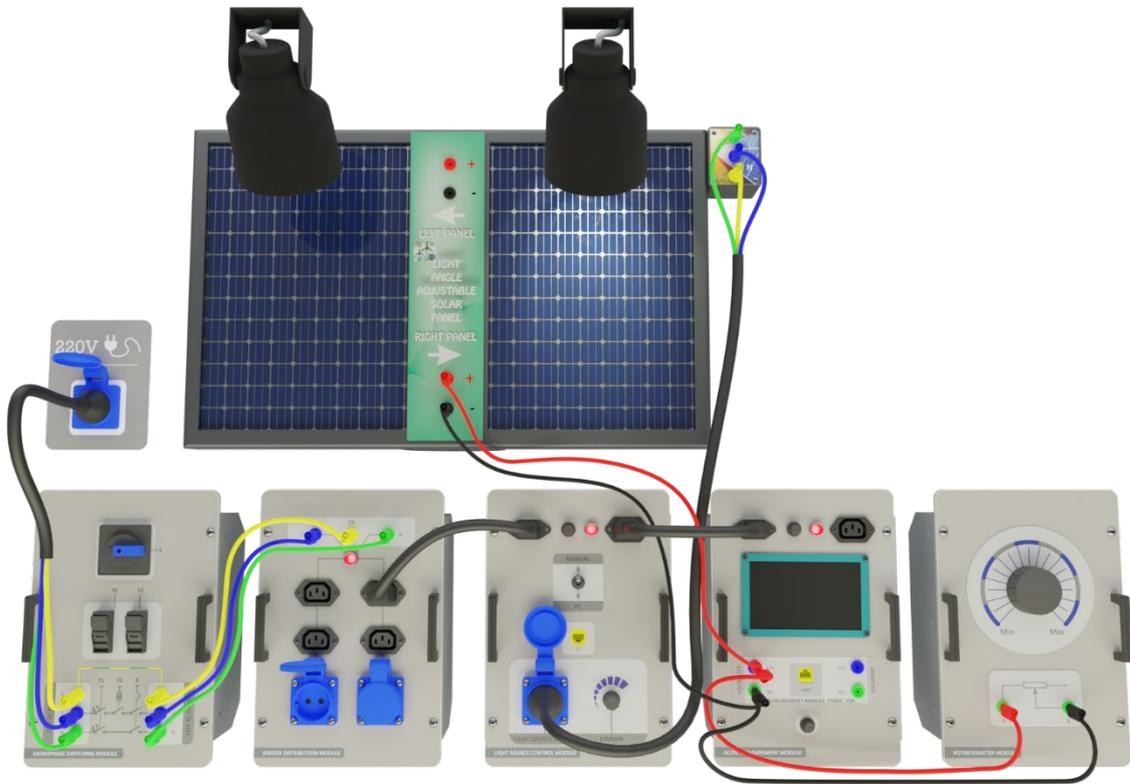

Figure-39. Installation Image of Examination of the Loaded Output Voltage Due to the Season Change of the Photovoltaic Panel
1. Set up the connection as specified in Figure-39. Ensure a constant level of light in the laboratory by creating an average scenario. Any alterations to the positions of the lamps or curtains will have an impact on the experimental outcomes.